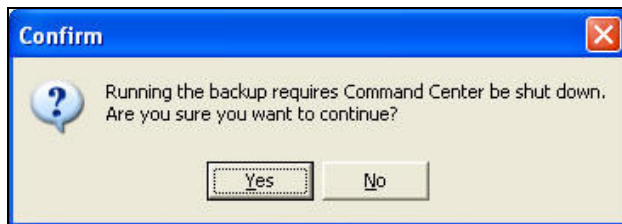

Figure 31.0.2
2. If you are going to perform a backup or restore function you must select **Yes** (Figure 31.0.2).